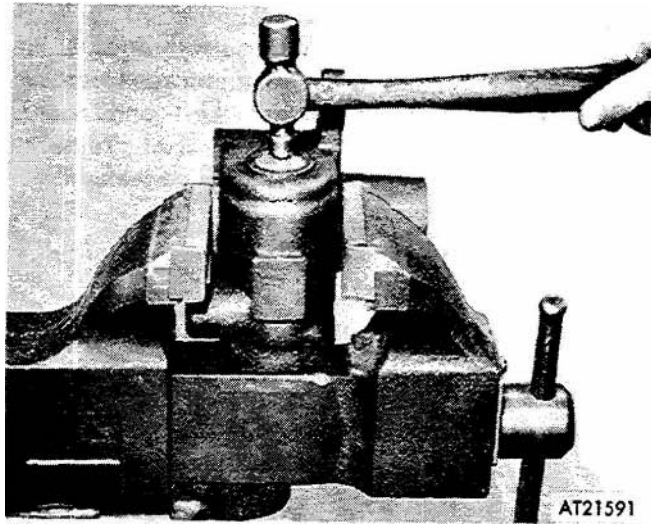

Figure 3-218. Plug installation.
(1) Position plug (21, fig 3-212) and secure by peening the center of plug with a suitable hammer (fig 3-218). Install plug (24, fig 3-212).